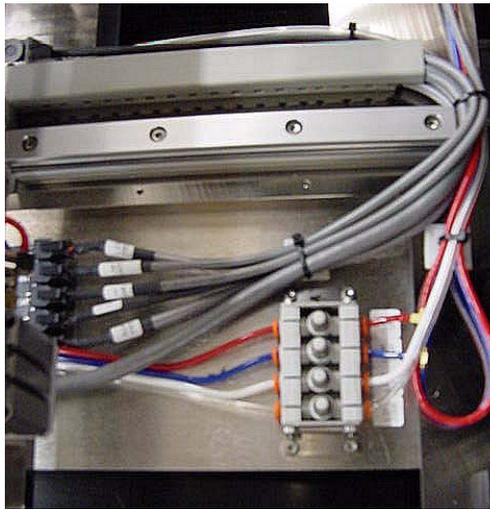

Figure 90. Air Flow Controls
1. Turn off air to the conveyor clamp by tightening the screws on the CLMP UP and CLMP DOWN flow controls located toward the back of the unit on the center conveyor section (Figure 90). If your system does not have flow controls on the unit, turn off the air pressure at the air regulator.